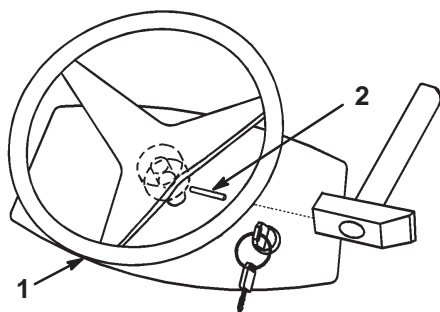

Figure 1
2. Align the holes of the steering wheel with the hole in the steering shaft. Orient the center spoke on the steering wheel so that it aligns with the center axis of the tractor and all of the dash components are visible (Fig. 1).
3. Insert the locking pin through the holes and drive it through the holes with a hammer (Fig. 1).